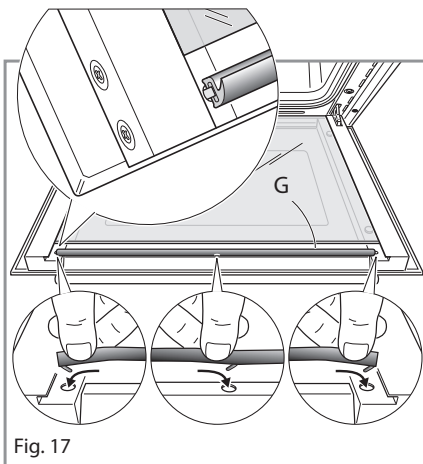

Fig. 17
- **Top oven door only:** Reassemble the seal **G** in the correct way (fig. 17) by hooking the no. 3 fixing hooks in the proper holes.